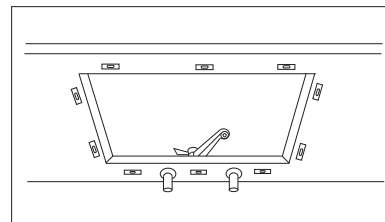

Figure 4
5. Locate and drill holes on the underside of the counter top, approximately 1" from edge of the sink to be installed. Holes should be evenly spaced approximately 6" to 8" apart starting from every corner as shown in Figure 4. It is recommended to install a faucet at this point before installing the sink.